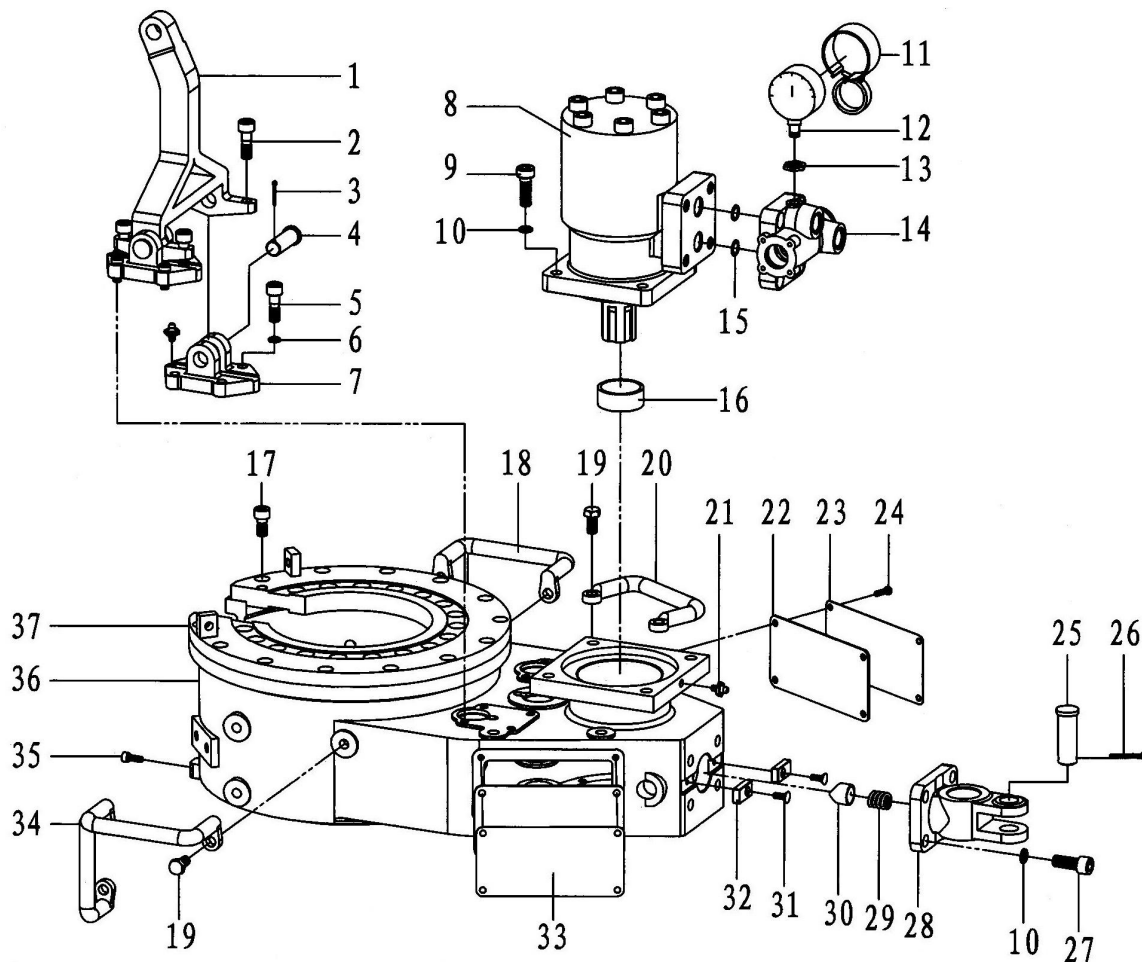

Fig.8-3
8.3 Shell accessory and parts list(Fig.8-3,Table 8-3)